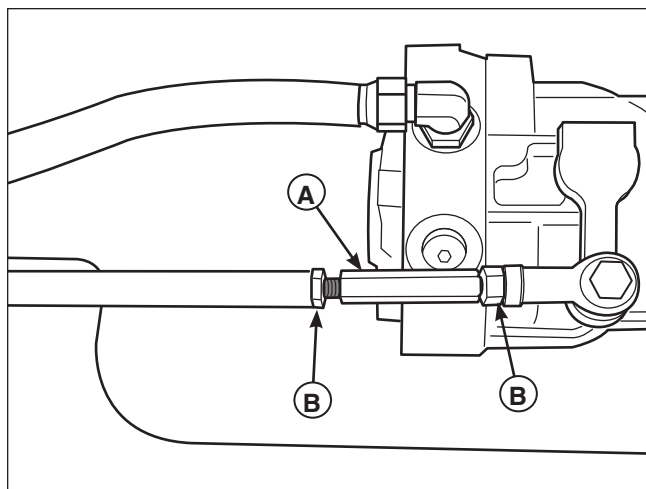

Figure 32. Neutral Adjustment (Left-hand side shown)
2. Loosen the jam nuts (B, Figure 32) and turn the adjustment linkage (A) to adjust. If the machine creeps forward, turn the linkage **CLOCKWISE** (while standing at the rear of the machine, facing forward), if the machine creeps backward, turn the linkage **COUNTER-CLOCKWISE**.
3. Lock the jam nuts (B) when neutral is achieved.